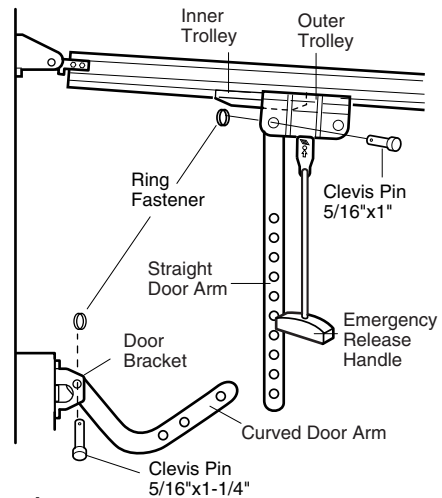

Figure 1
- Mark and drill 5/16" (0.78 cm) left and right fastening holes. Secure the bracket as shown in Figure 1 if there is vertical reinforcement.
- Make sure garage door is fully closed. Pull the emergency release handle to disconnect the outer trolley from the inner trolley. Slide the outer trolley back (away from the door) about 2" (5 cm) as shown in Figures 1, 2 and 3.
• Figure 1: